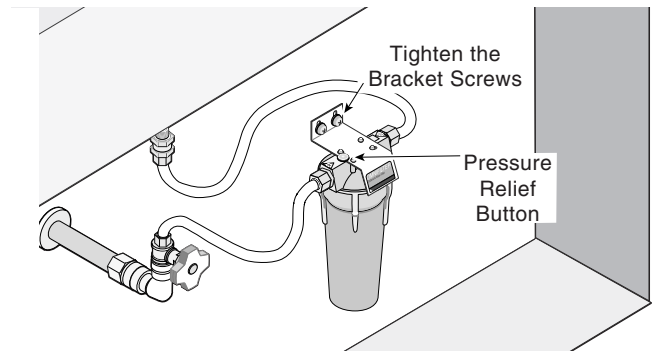

Figure 7
10. Open the cold water shut off valve slowly. Depress the pressure relief button on the top of the unit to release excess air. See Figure 7. Check for leaks at all the fittings. If there is a leak, close the shut off valve, tighten the fittings and repeat the procedure at the beginning of this step.